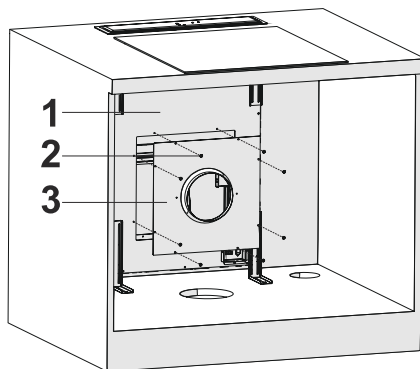

Fig. 18: I
8. ➔ Install air exhaust plate supplied together using 8x 3.5 x 6.5 screws (Fig. 18).